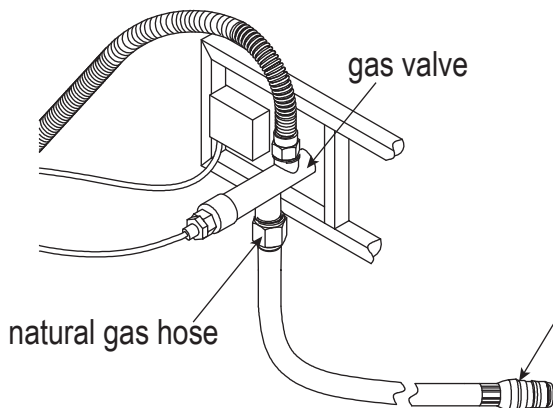

Figure 11
4. Connect the natural gas hose to the gas valve by screwing clockwise tightly (see Figure 11). Plug the natural gas fixture into the natural gas supply system (see Figure 12). The conversion kit should be CSA certified. Below are several suggested CSA certified conversion kits for your reference.